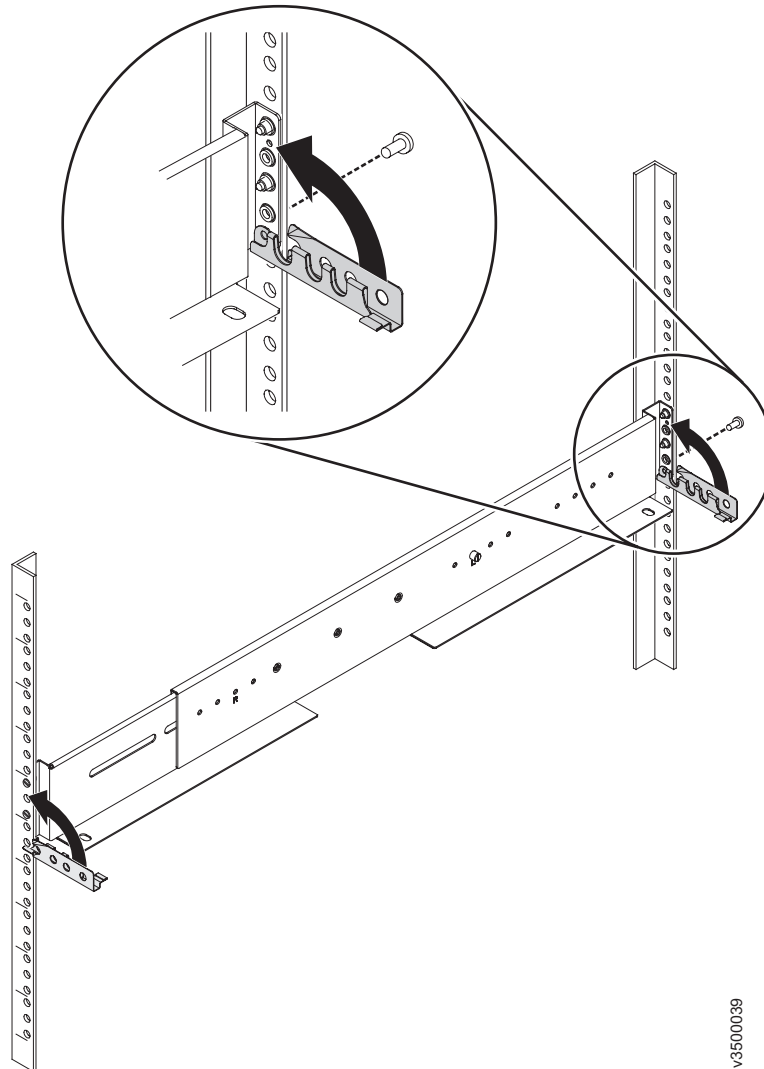

Figure 11. Closing hinge brackets and installing rear screw
7. On the rear of the rail, press the two bracket pins into the holes in the rack flanges and close the rear hinge bracket to secure the rail to the rack cabinet flange (see Figure 11).
8. On the front of the rail, press the two bracket pins into the holes in the rack flanges and close the front hinge bracket to secure the rail to the rack cabinet flange (see Figure 11).
9. Secure the rear of the rail to the rear rack flange with an M5 screw (see Figure 11).